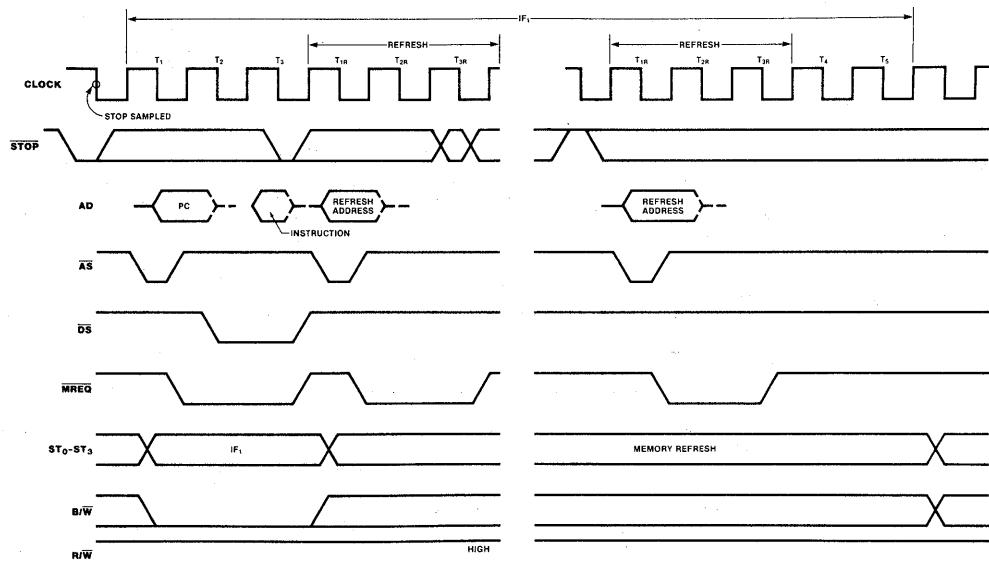

Figure 9-10. Stop Timing
9.6.4 Stop Request. As shown in Figure 9-10, the **STOP** pin is normally sampled on the falling clock edge immediately preceding an initial instruction fetch cycle. If **STOP** is found Low, the CPU enters Stop/Refresh state and a stream of memory refresh cycles is inserted after the third clock cycle in the instruction fetch. The **ROW** field in the Refresh Counter is incremented by two after every refresh cycle.